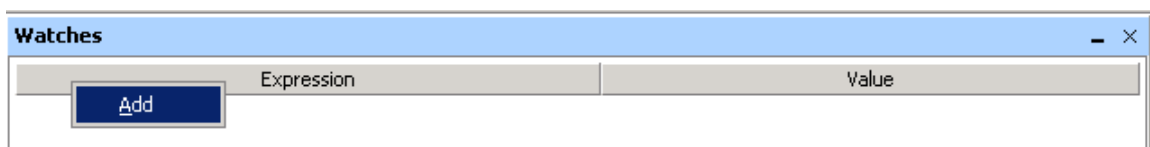

Figure 43. The Watches window.
2. Right-click on the gray bar and click **Add**, as illustrated in Figure 43.